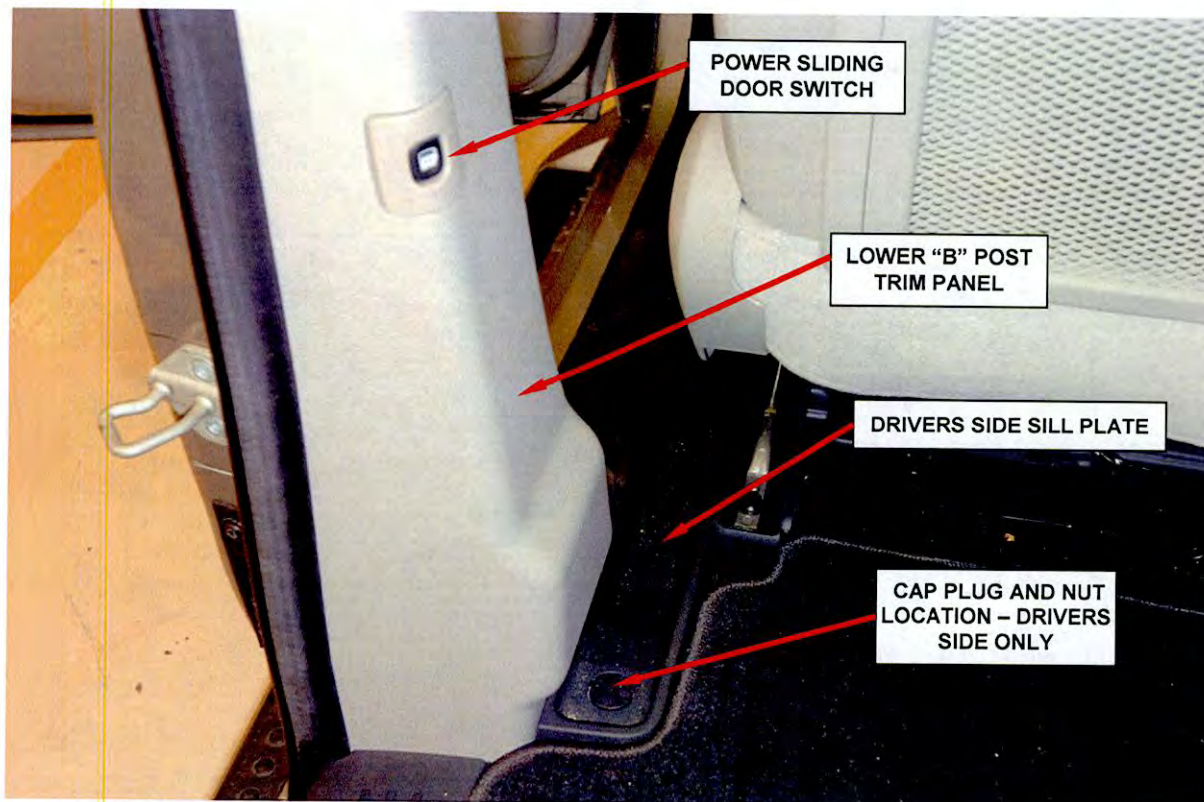

Figure 13 – Lower “B” Post Trim Panel and Power Sliding Door Switch
NOTE: Remove the cap plug and nut at the rear of the front driver side sill plate, before attempting to remove the sill plate (Figure 13).
4. Carefully unsnap the lower “B” post trim panel (Figure 13).
5. Disconnect the power sliding door switch, located on the lower “B” post trim panel, from the body wiring harness connector (Figure 13).
23. Connect the power sliding door switch, located on the lower “B” post trim panel, to the body wiring harness connector (Figure 13).
24. Carefully snap the lower “B” post trim panel in place (Figure 13).
NOTE: Install the nut and cap plug at the rear of the front driver side sill plate (Figure 13).